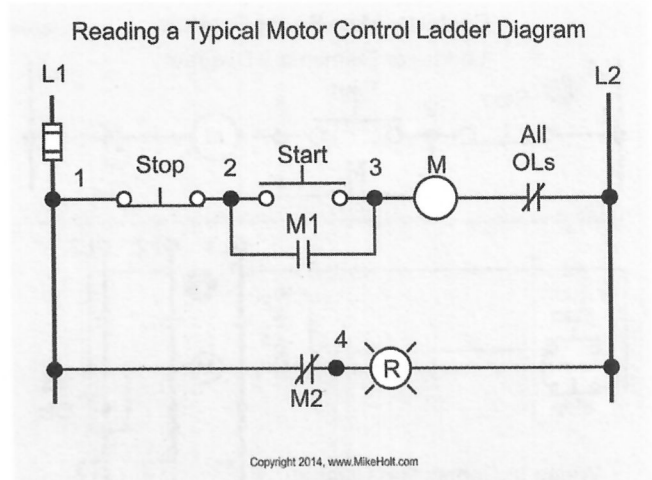

Figure 1
52. In Figure 1 there is(are) ____ momentary-contact push-button(s).
53. In Figure 1, when the start pushbutton is pressed, the ____.
54. In Figure 1, the letter in the middle of the pilot light symbol represents ____.
55. In Figure 1, the normally closed auxiliary contacts M2 are connected to points ____.
56. In Figure 1, the normally open auxiliary contacts M1 are connected to points ____.